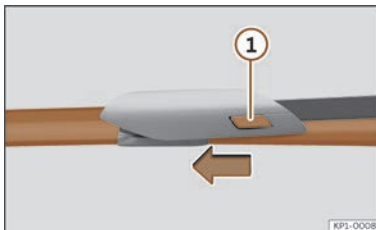

Fig. 207 Changing the windscreen wiper blades
- Press and hold release button >>> Fig. 207 ① and pull gently on the wiper blade in the direction of the arrow.